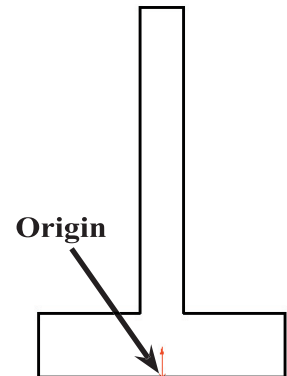

Fig. 2
Step 3. Click **Line**  (L) on the Sketch toolbar.
Step 4. Draw lines starting at the Origin , **Fig. 2**. Keep the Origin at the center of the bottom line. Use the inferencing line, the dotted line that appears when you draw the lines.